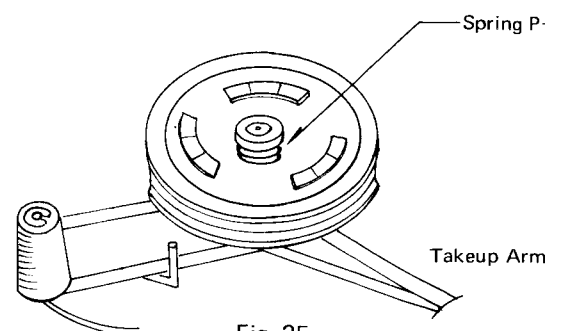

Fig. 25
- (a) • remove oil and dust to flywheel belt (52) and/or
- (c) • replace takeup lever spring (73) (Refer to Fig. 25) and/or